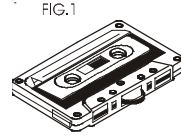

FIG.1
- (1) Check that there are no loose layers of tape visible through the cassette center window (see FIG. 1). Tighten these loose layers using a pencil before inserting cassette into the machine (see FIG. 2).